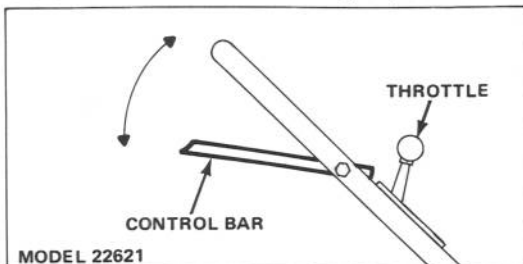

Figure 6
4. **STARTING** (Model 22621) — Move ground speed control to desired speed selection (Fig. 6) and throttle to **CHOKE**. Pull fingertip starter and
5. **TRACTION OPERATION** (Model 22621) — Squeeze control bar against handle to drive. Ground speed varies, depending on space between control bar and handle (Fig. 6).